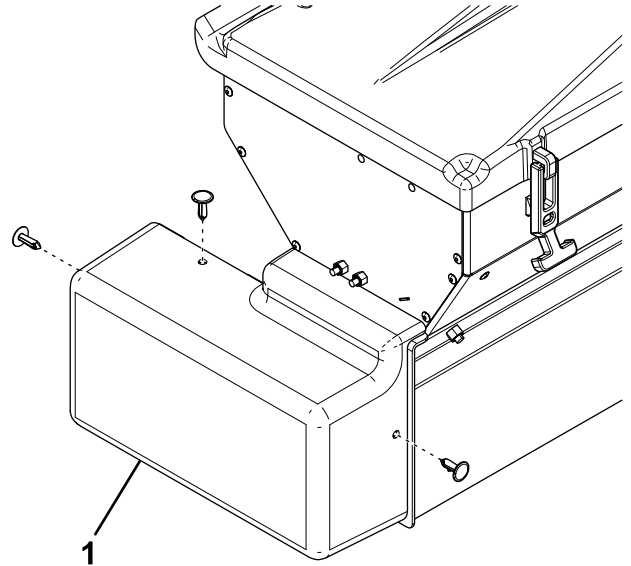

Figure 16
1. Remove and retain the motor cover (Figure 16).